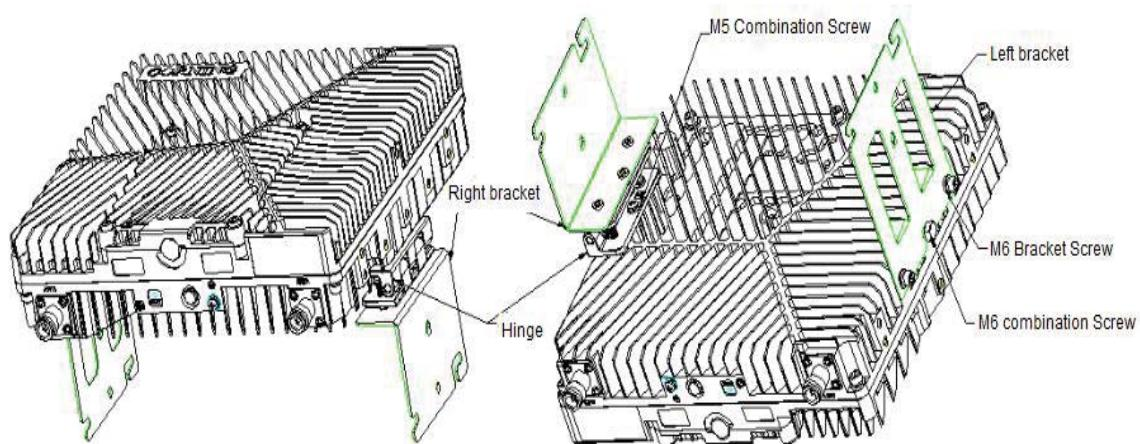

Figure 42. Installation of the Left and Right Brackets and Device Bracket
2) Assembly of left bracket, right bracket, and equipment, as shown in Figure 42.